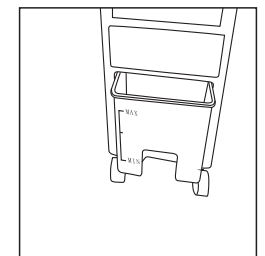

fig. 3
- 1) Water level must be between the MIN and MAX line (as shown in fig3)